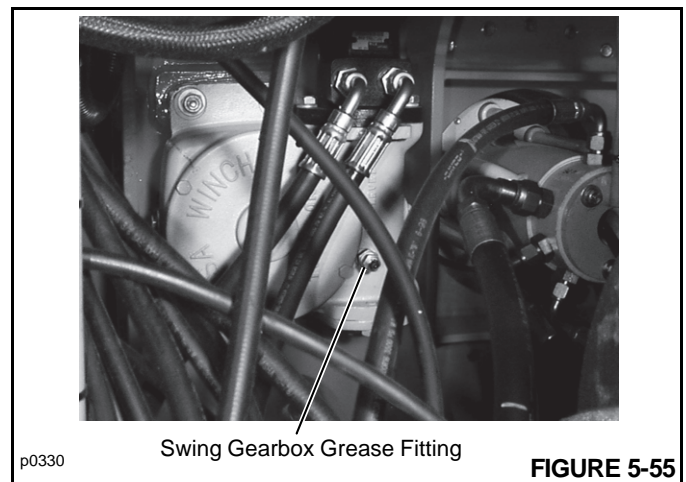

FIGURE 5-55
2. Clean the grease fitting (Figure 5-55), located on the swing gearbox housing.